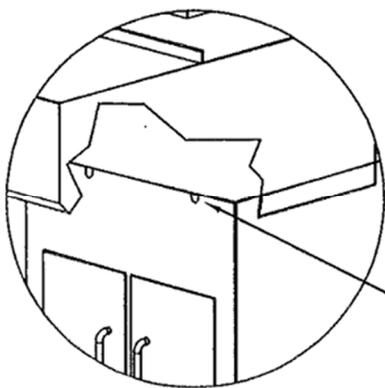

FIGURE 1
3. Line up hood so it is pushed all the way back so the front tabs of the hood will be secured to smoker oven. See Figures 1 and 2.